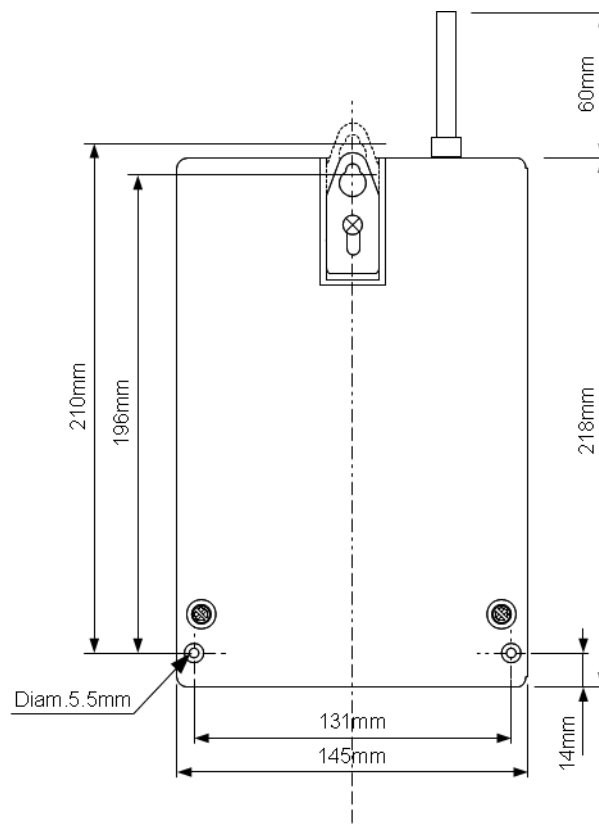

Fig.4.2 Concentrator Backside view
The concentrator should be mounted on an open board or inside a case provided for this purpose. The concentrator has one hanger on the top backside and two mounting holes in the terminal block, see Fig 4.2.
- 3.** Set the concentrator hanger in the desired position and fix it by screw. The hanger on the case backside can be moved up and down as shown on Fig 4.2.